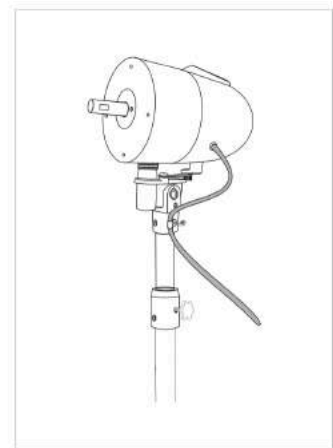

Figure 3
4. Consider the length of the power cord required, head tilt, activation of the oscillating mode, relative to the location of the electrical outlet, the cable should never be tense. Figure 3